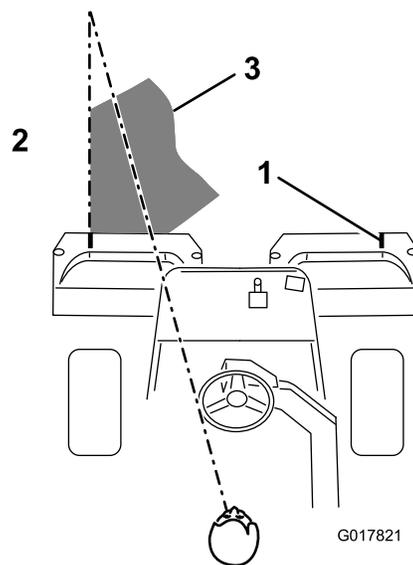

Figure 41
3. Overlap a minimal amount with the previous cut on return passes. To assist in maintaining a straight line across the green and keep the machine an equal distance from the edge of the previous cut, establish an imaginary sight line approximately 6 to 10 ft (1.8 to 3 m) ahead of the machine to the edge of the uncut portion of the green (and Figure 41). Some find it useful to include the outer edge of the steering wheel as part of the sight line; i.e. keep the steering wheel edge aligned with a point that is always kept the same distance away from the front of the machine (and Figure 41).